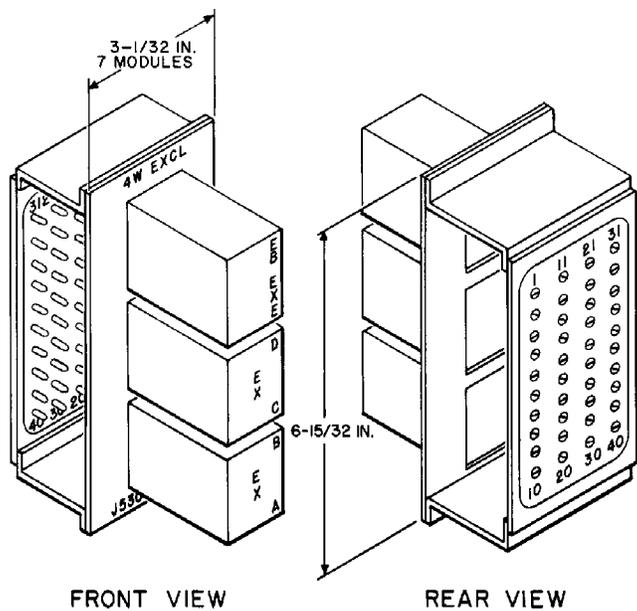

Fig. 5—Exclusion Relay Unit
**2.08** The exclusion unit (Fig. 5) provides means for disabling pickup relays of selected station sets at the customer location, preventing undesired station access to lines in use. Several optional levels of exclusion are provided as follows: